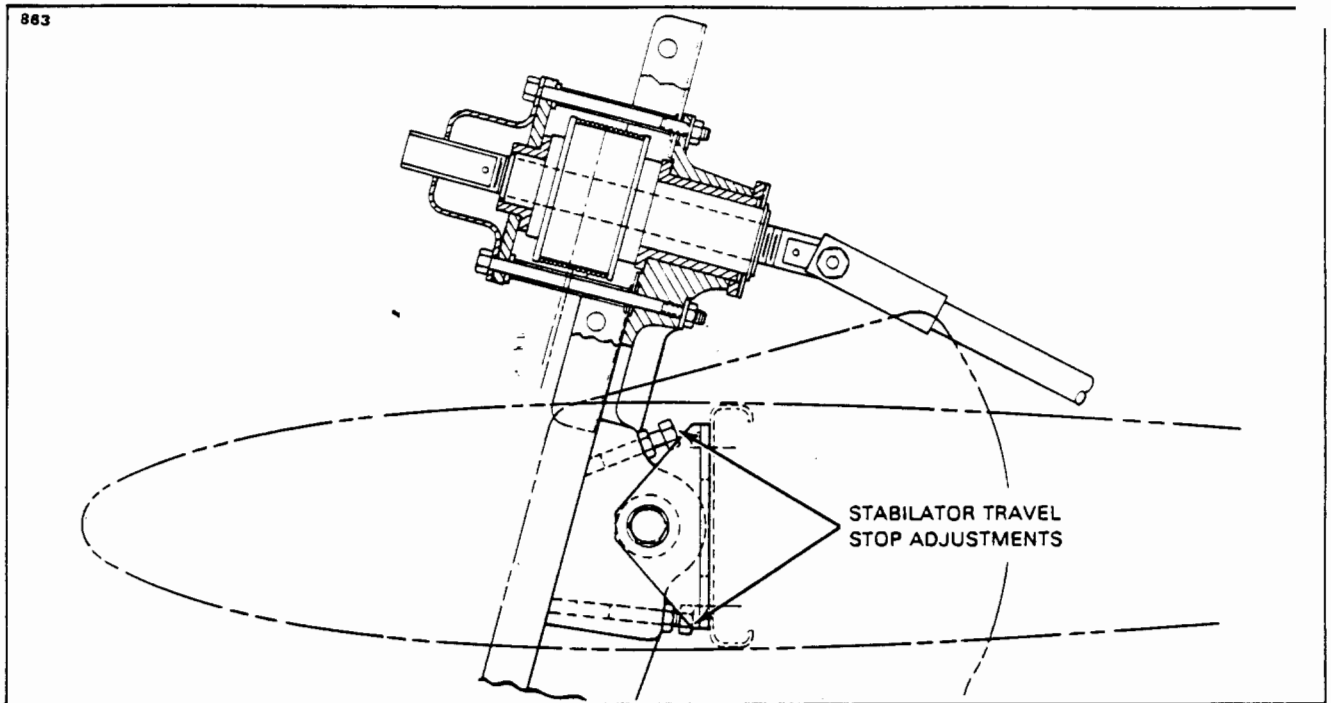

Figure 27-14. Stabilator Travel Adjustments
- F. Should the stabilator travel be incorrect in either the up or down position, remove the fin tip by removing the attachment screws and with the use of the rigging tool and bubble protractor turn the stops located at the stabilator hinge in or out to obtain the correct degree of travel. (Refer to Figure 27-14.)